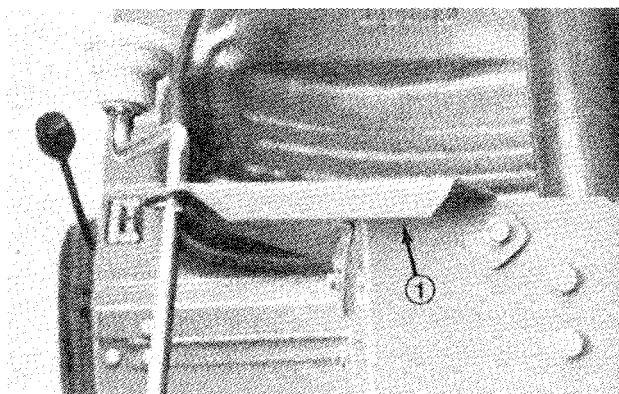

Figure 2
2. Aligning top bracket mounting holes with exposed holes (Fig. 2), secure bracket to tower parts with (2) 1/4-20 x 3/4" lg. capscrews.